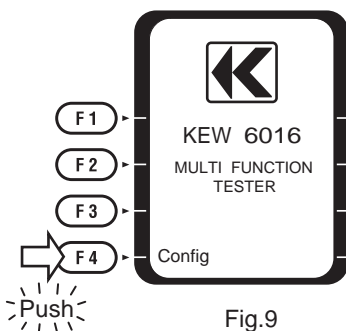

Fig.9
1. Press the Config Button (F4) when powering on KEW6016. (Fig.9)